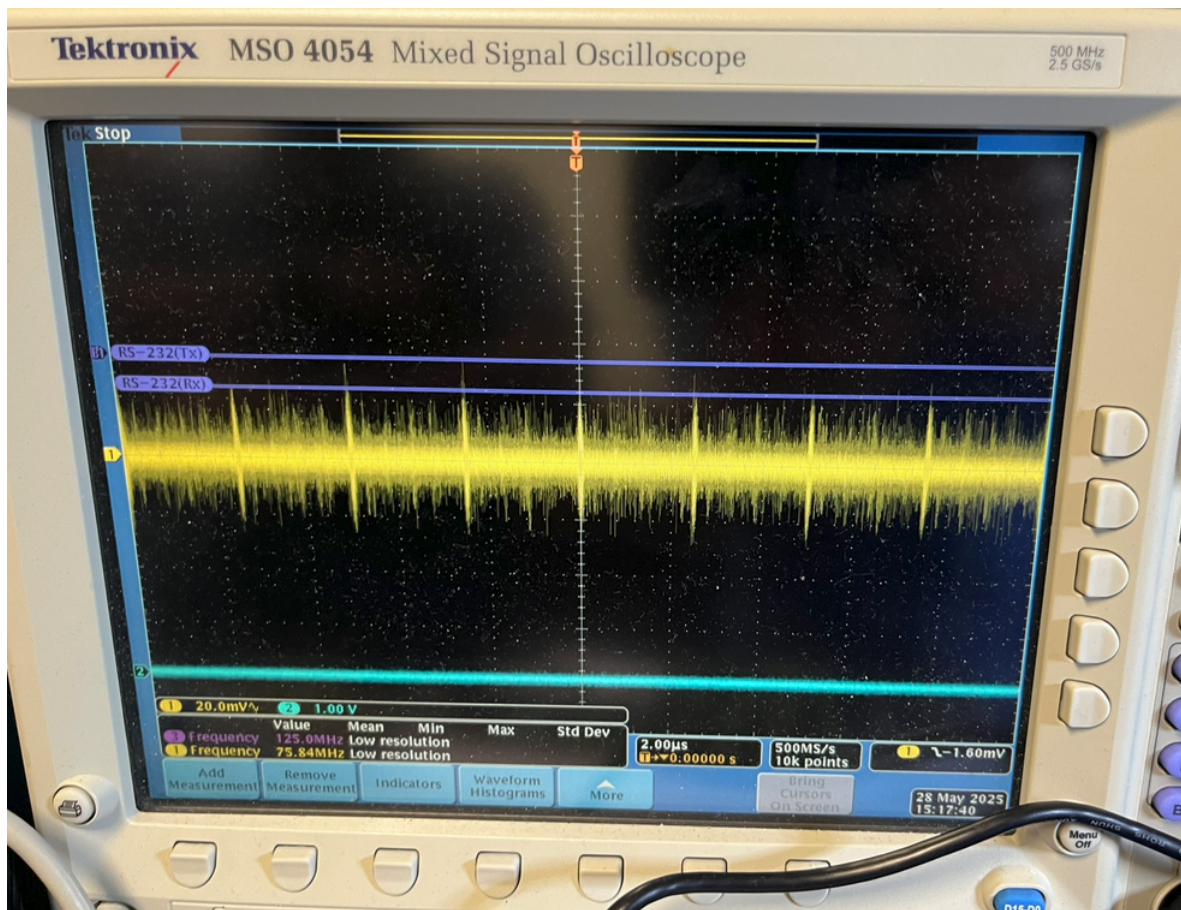

Figure 9: DC-DC converter switching waveform
2. **Switching Frequency** With the oscilloscope attached to the probe point, set to AC coupling, 20mV scale, and 2us timescale, observe the period of noise as shown in Figure 9. **Note:** Do not rely on the oscilloscope frequency measurement function, as it is likely to be confused by the low resolution of the pulses. **Acceptance criteria:** period 1.0–1.1 μ s (frequency 917kHz – 1MHz).